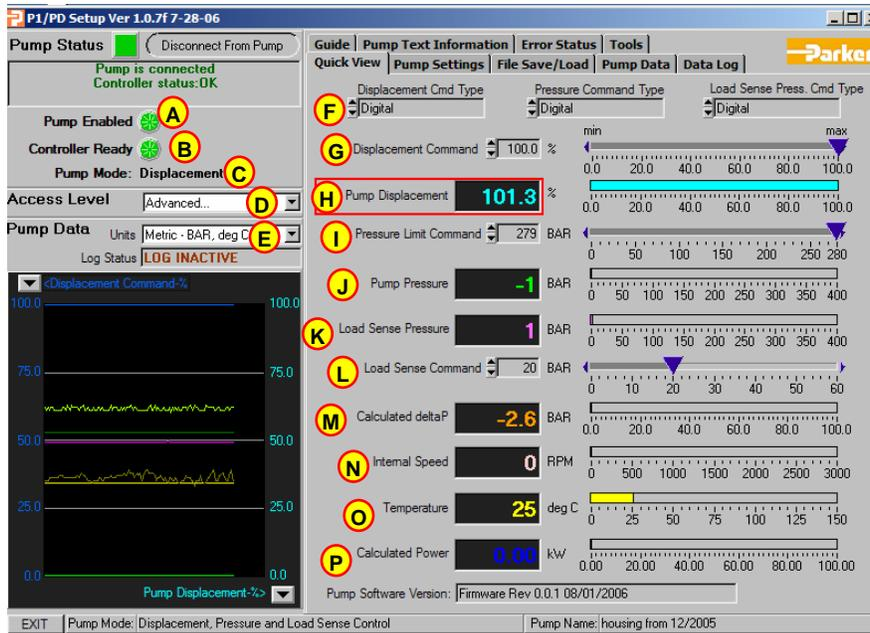

Figure 4: Quick View screen of P1/PD GUI
14. The “Quick View” menu option will be the screen that comes up when first starting the GUI, see Figure 4.